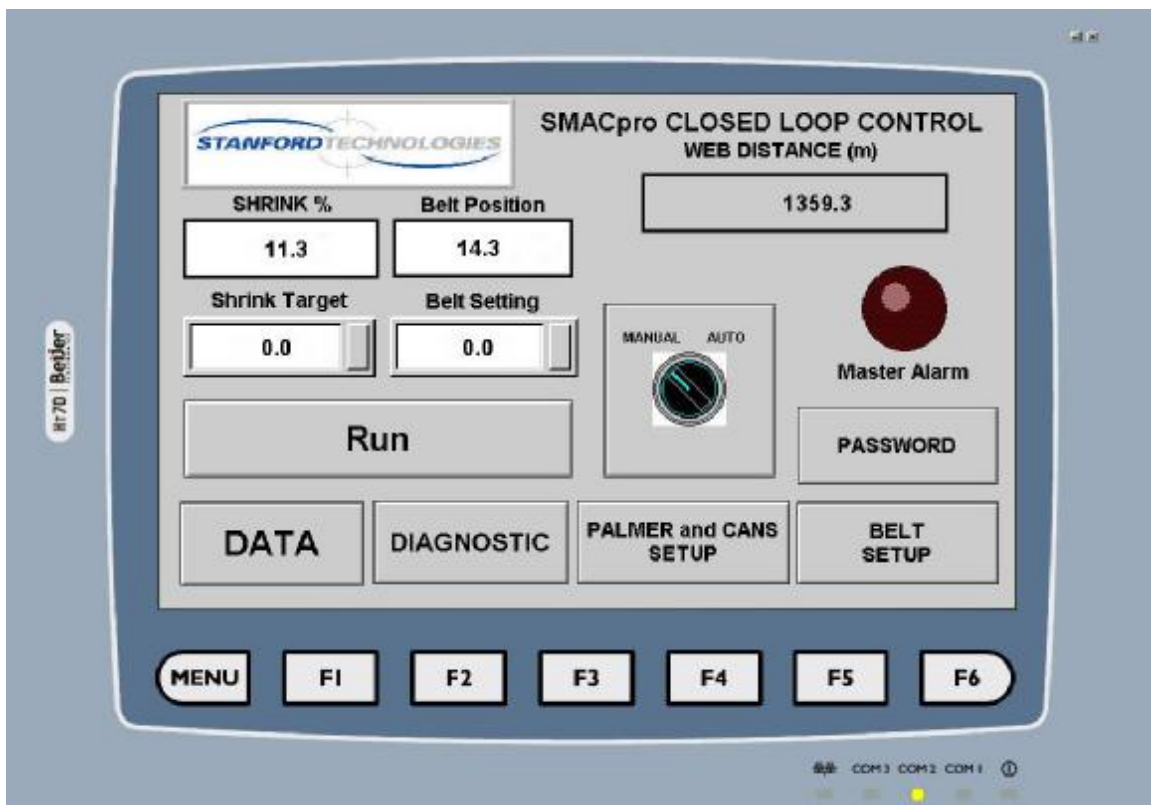

Figure 1
- a. The range operator's main objective is to engage the system in manual or automatic control. He will use the main screen (figure 1) to do most of his work with SMACpro.